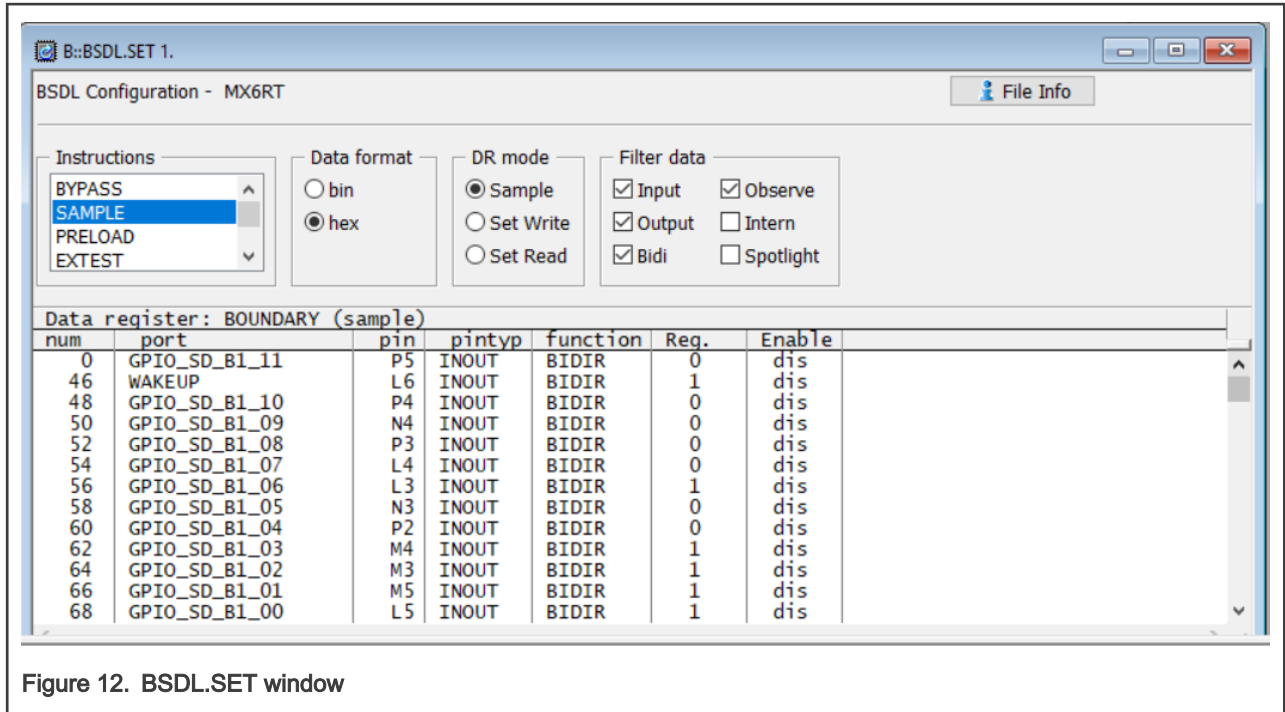

Figure 12. BSDL.SET window
- In the BSDL.SET window, uncheck **Intern** to filter out the internal registers. The remaining contents are the sampled value on each signal pins. Use a multimeter to measure voltage of at least three signal pins, and see if the logic state matches the sampled value. SAMPLE check pass, Figure 12 shows BSDL.SET window.